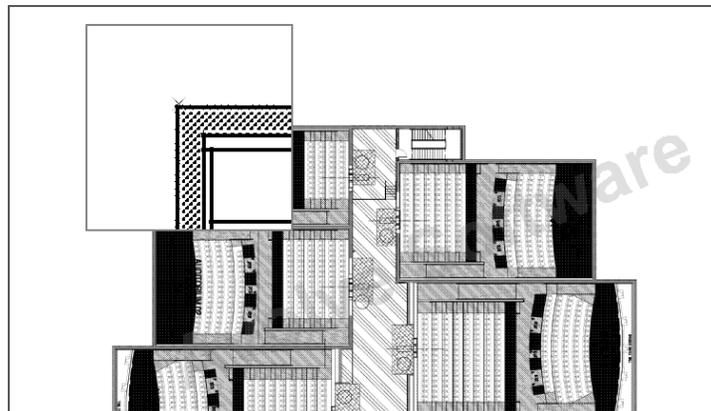

Figure 33.3 Set Alignment Tool (with magnification)
- 5) Left click on the start point and hold down the left mouse button down to magnify the point of contact for the image. You can move the point while the button is down. This assists with placement of the alignment point, as seen in Figure 33.3